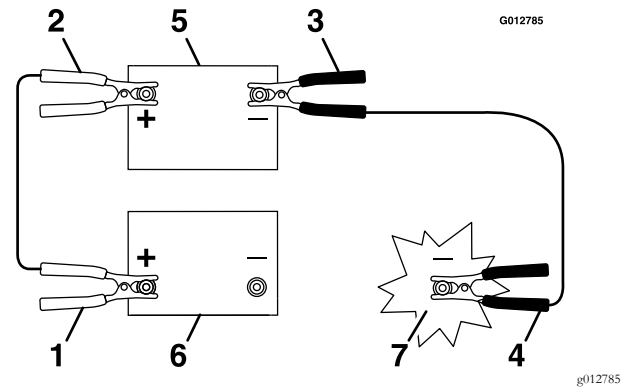

Figure 23
3. Connect the positive (+) cable to the positive (+) terminal of the discharged battery that is wired to the starter or solenoid as shown in Figure 23.